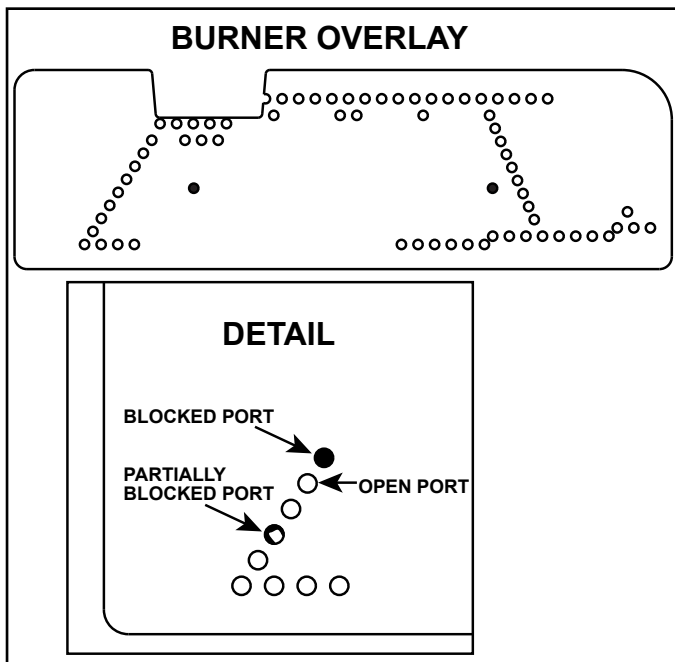

Figure 11.10 Check Burner Ports
2. Remove the burner overlay from the packaging. Check to ensure all ports are free from any obstructions. See Figure 11.10.